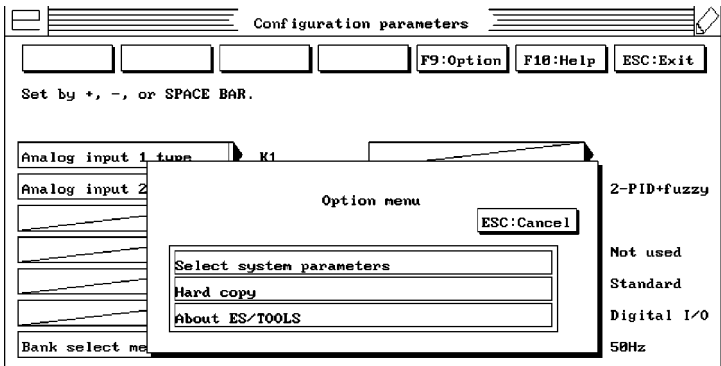

Figure 3
1. Click on **F9:Options** button. An options Menu appears (Figure 3).